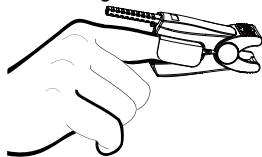

Fig.4.7
- c. Connect the end of sensor to the device, the other end to the patient measured finger, as shown in Fig.4.7